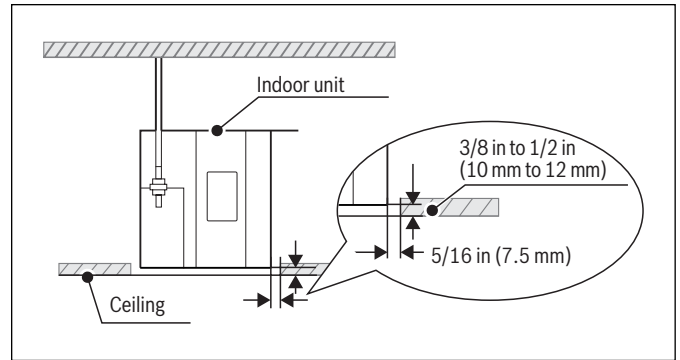

Figure 29
- f. Finally, level the unit by adjusting the hex nuts on the four mounting hooks. The bottom of the unit should also be 3/8in to 1/2in (10-12mm) recessed from the bottom of the ceiling (see Figure 29).